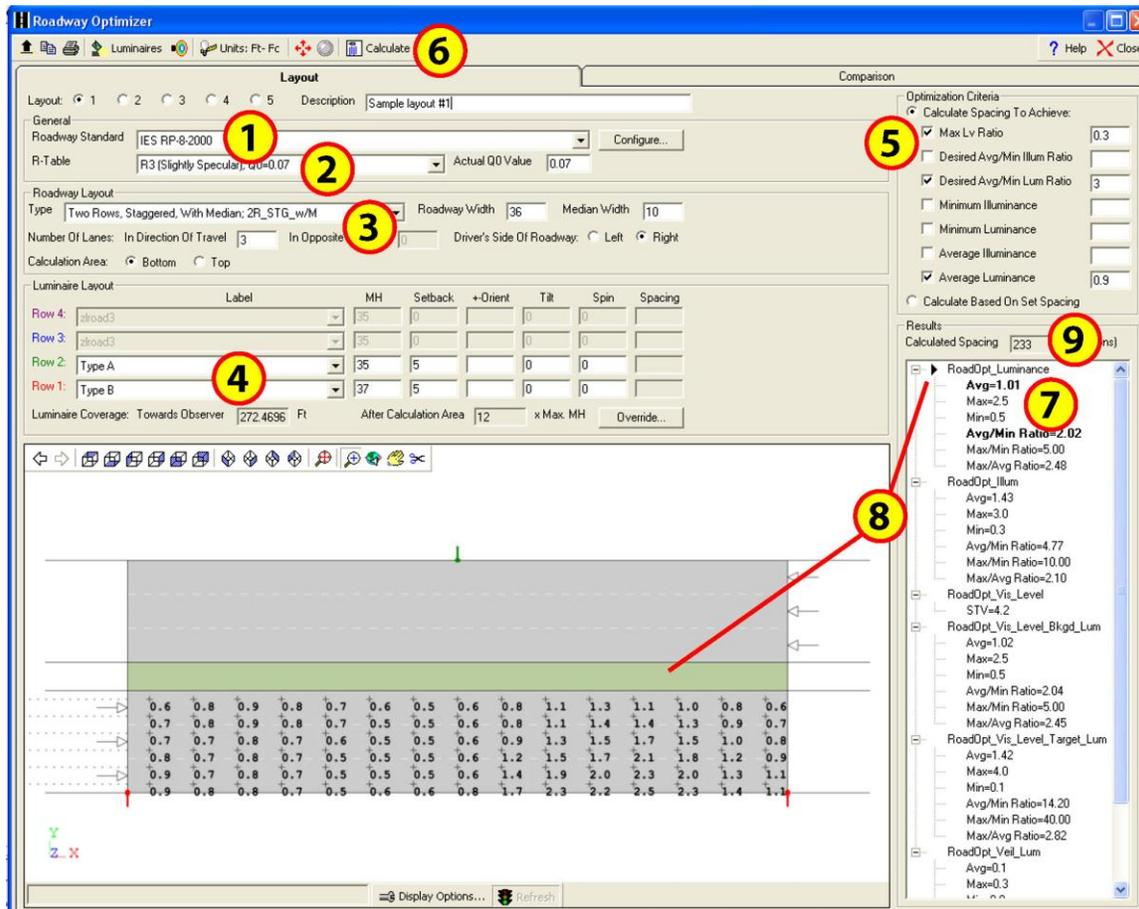

Figure 1 – The Roadway Optimizer
*Each step references Figure 1 below*